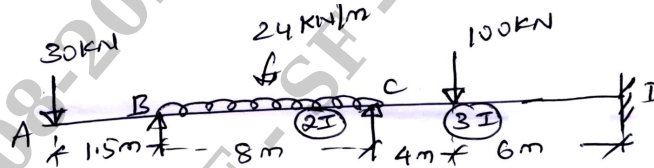

Fig.Q3(a)
- 3 a. Analyze the given beam shown in Fig.Q3(a) by force method. If the support at 'B' and 'C' sinks by $240/EI$ and $300/EI$ metre. Select moment at C and D as redundant.